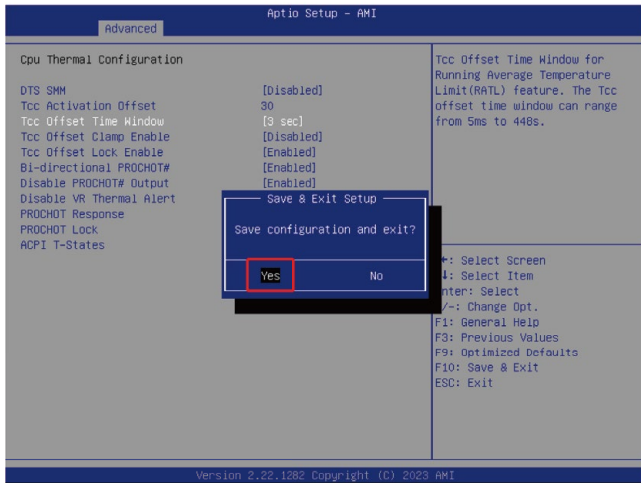

Figure 2-9-9
⑦ After the setting is completed, press F10 on the keyboard to pop up the Save&Exit Setup pop-up window. Use the ← or → key on the keyboard to select YES and press the Enter key to save the settings. Figure 2-9-9.